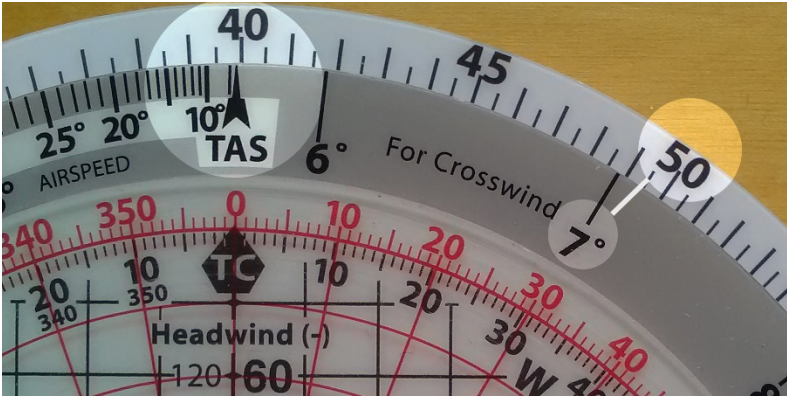

Figure 28.
- 1. Set the miles flown (40) opposite the TAS index (see Figure 28).*